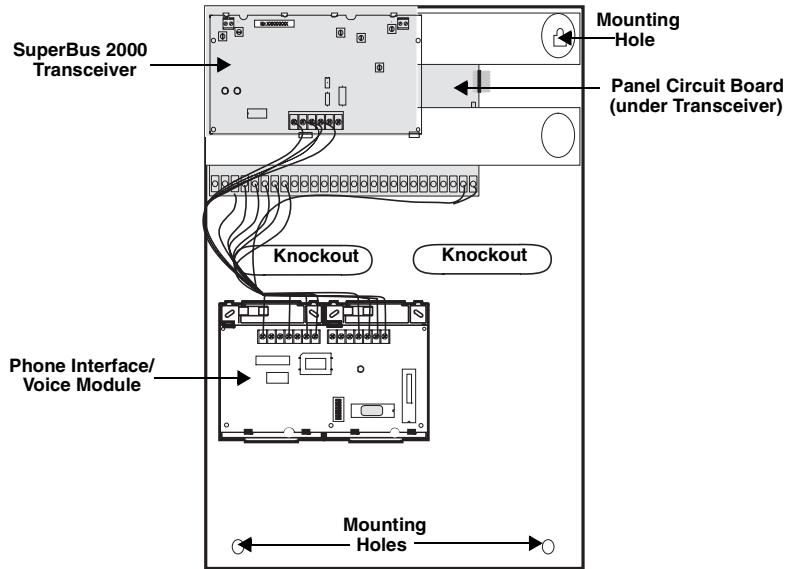

Figure 2. Mounting the Panel
1. Open the panel door and remove the necessary wiring knockouts (see Figure 2). Be careful not to damage the circuit board.
3. Level the panel and mark the top right and bottom mounting holes (see Figure 2). You will be unable to mark the top left mounting hole.